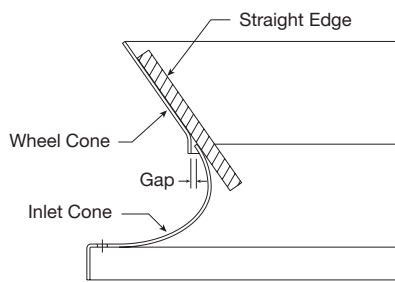

Figure 1
1. Rotate the fan wheel by hand and assure no parts are rubbing. The wheel should rotate freely and be aligned as shown in Figure 1. Wheel position is preset and the unit is tested at the factory.
Alignment - If necessary, adjust wheel position by loosening the wheel hub (see Tapered Bushing Installation and Removal on pages 9 and 10) from the motor shaft so that a straight edge held tight to the wheel cone just touches the inlet cone. Refer to Figure 1.
- 4. Adjust the axial location of the wheel in the fan relative to the inlet cone (venturi) as shown in Figure 1, page 8. Then tighten the socket head cap screws an eighth turn at a time in an alternating fashion and to a torque of 10 ft·lbs for QT bushings and 9 ft·lbs for SD bushings.